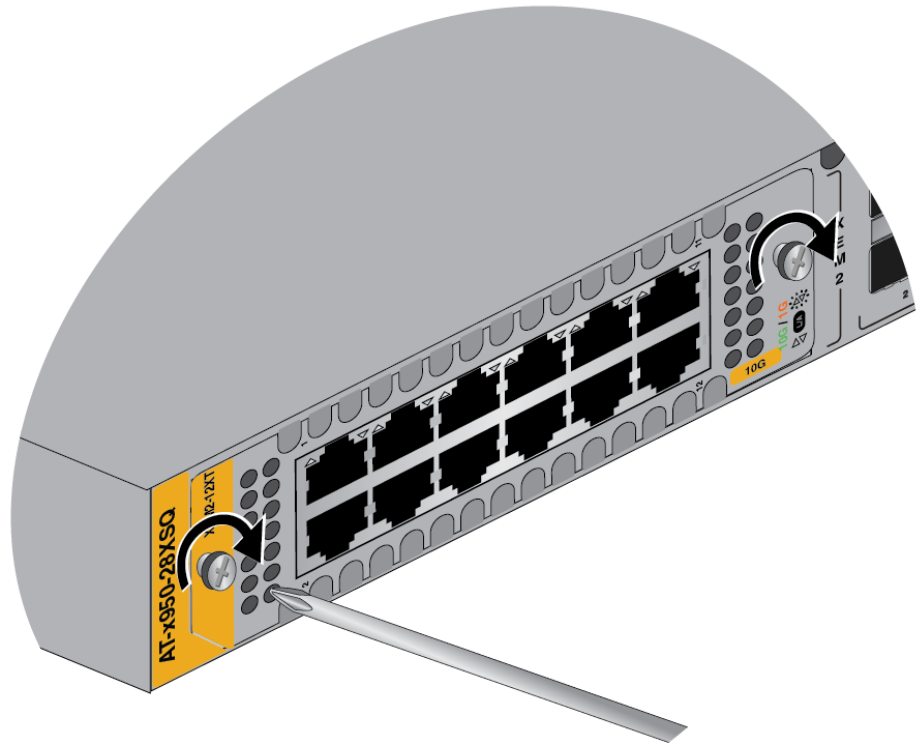

Figure 76. Tightening the Two Captive Screws on the Ethernet Line Card
6. Tighten the two captive screws on the card to secure it in the switch. Refer to Figure 76 on page 133.